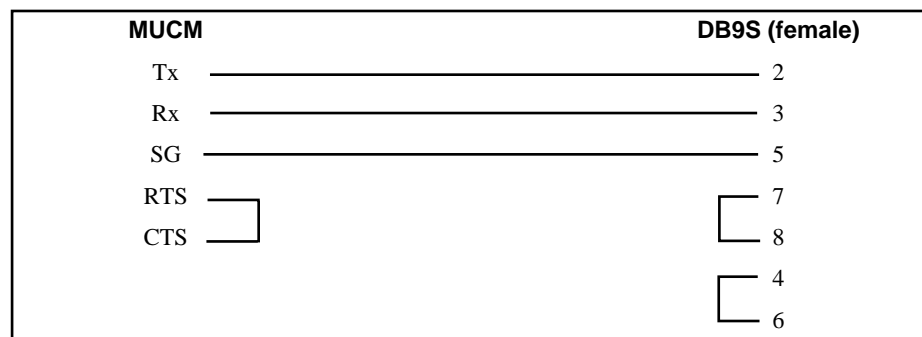

Figure 2-1 MUCM to 9-pin UPS RS-232 (MU1 Cable)
- MU1 cable (or equivalent can be built; see Figure 2-1)
A physical connection must be made from the personal computer to the MUCM in order to download the applications. This link is a serial connection from a COM port on the personal computer to the RS-232 port on the MUCM. The Niobrara MU1 cable may be used for this connection. This cable is shown in Figure 2-1.